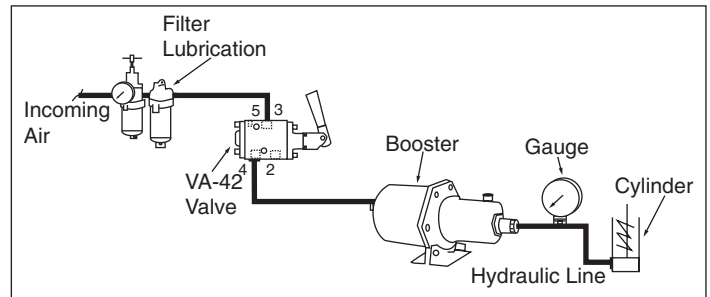

Figure 2
5. Connect an air line from the VA-42 control valve, port No. 4, to the booster inlet port (figure 2). Valve port No. 1 remains open for exhausting air.